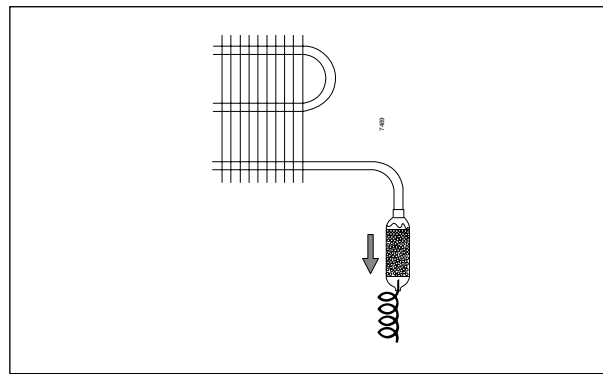

Fig. 10: Correct location of filter drier
This prevents the Molecular Sieve (MS) balls from wearing against each other and producing dust, which could block the capillary tube inlet. This vertical position also ensures quicker pressure equalization in capillary tube systems. See Fig. 10.